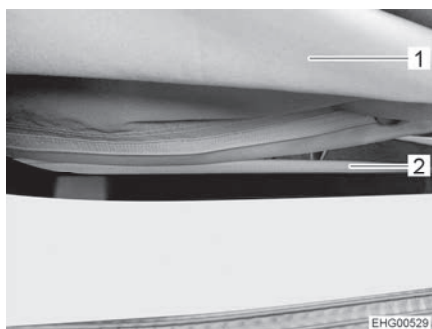

Fig. 89 Zip
- Fully open the zip (Fig. 89,2) on the underside of the bellows (Fig. 89,1).